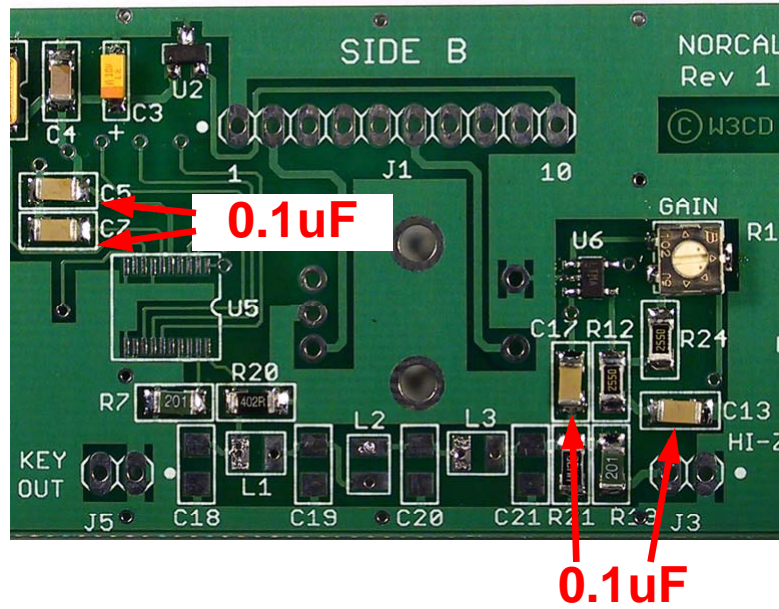

Figure 16. C5, C7, C13, C17 Locations
- ☐ Remove the remaining strip of 0.1uF capacitors from Bag 1. These are unmarked. Refer to **Figure 16**. Install them at: